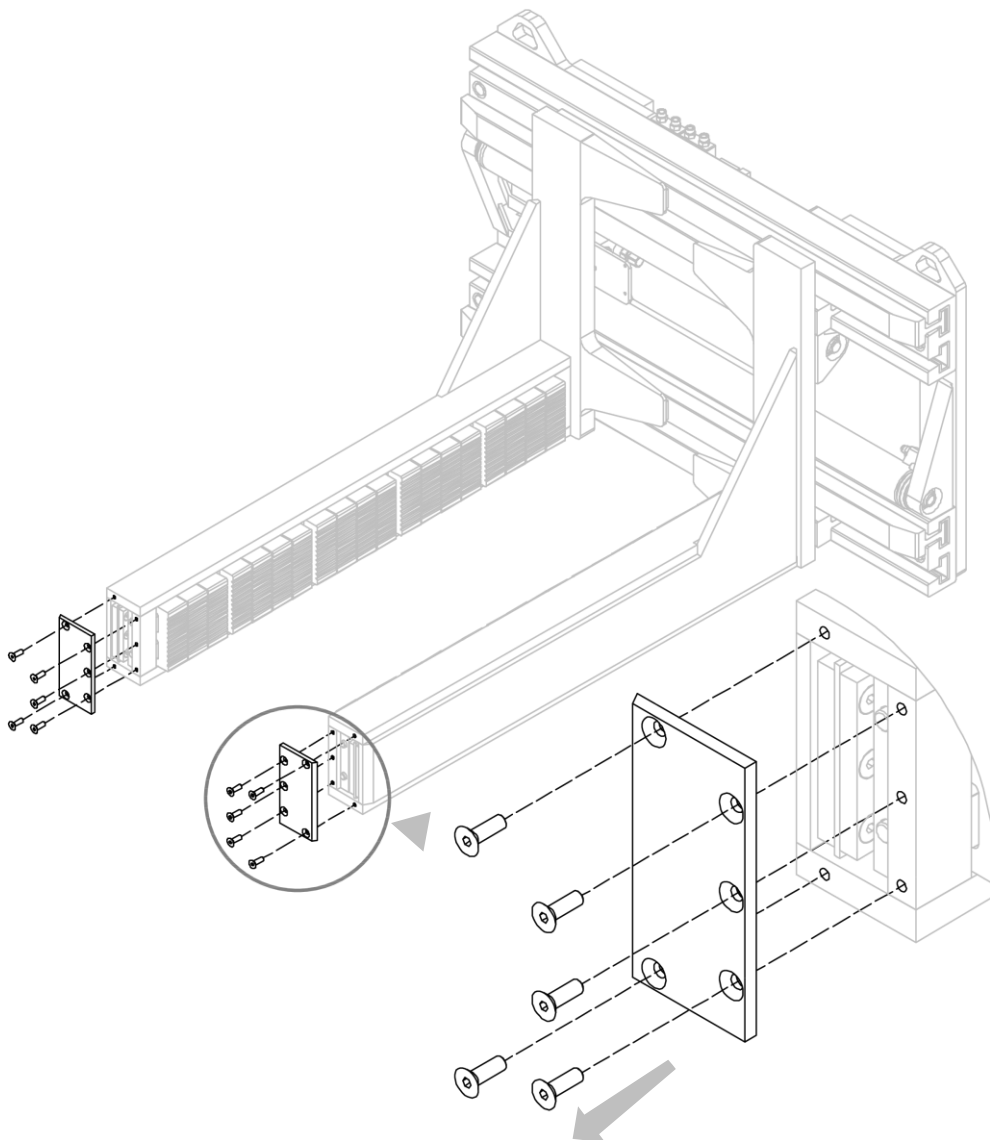

Figure 33
2. Remove the covers by unscrewing the bolts that hold them in place (see *Figure 33*).